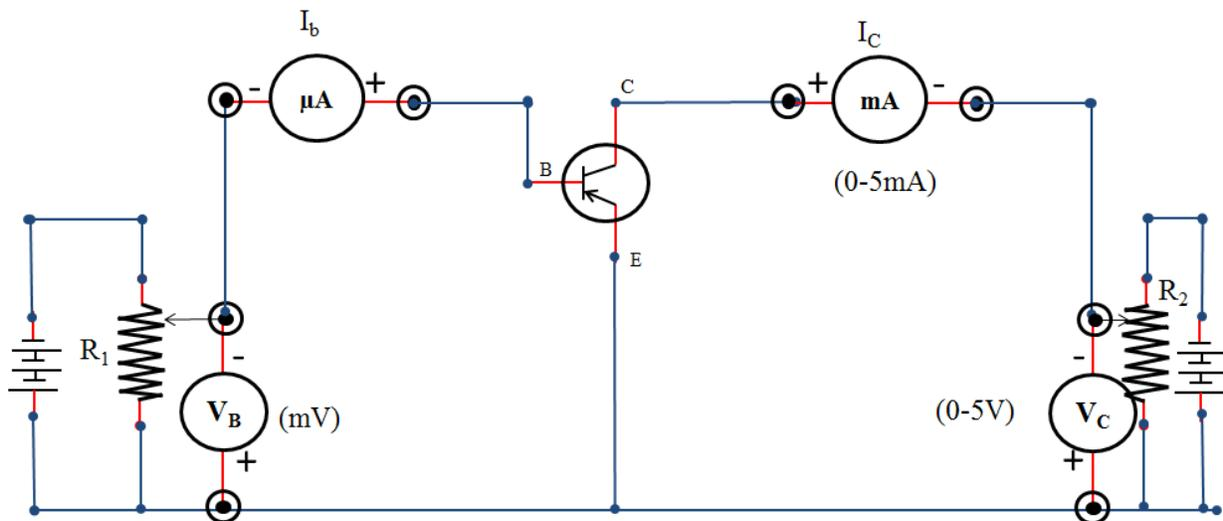

Figure 4. Circuit diagram for common emitter arrangement
**(B) Common Emitter Arrangement:**
- (i) Make the connections as shown in figure 4.